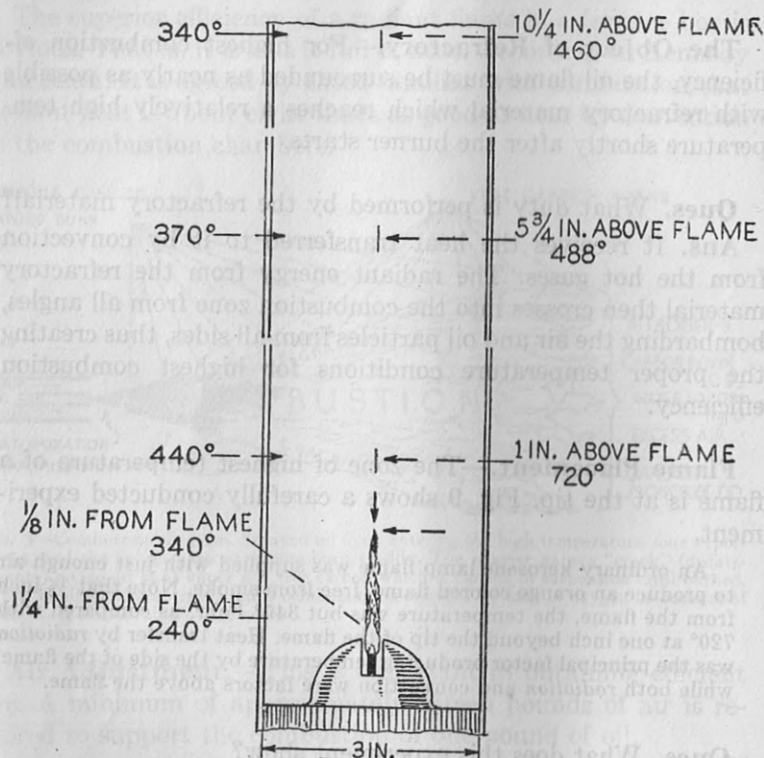

FIG. 9—Experiment illustrating flame placement.
**Flame Placement.**—The zone of highest temperature of a flame is at the tip. Fig. 9 shows a carefully conducted experiment.